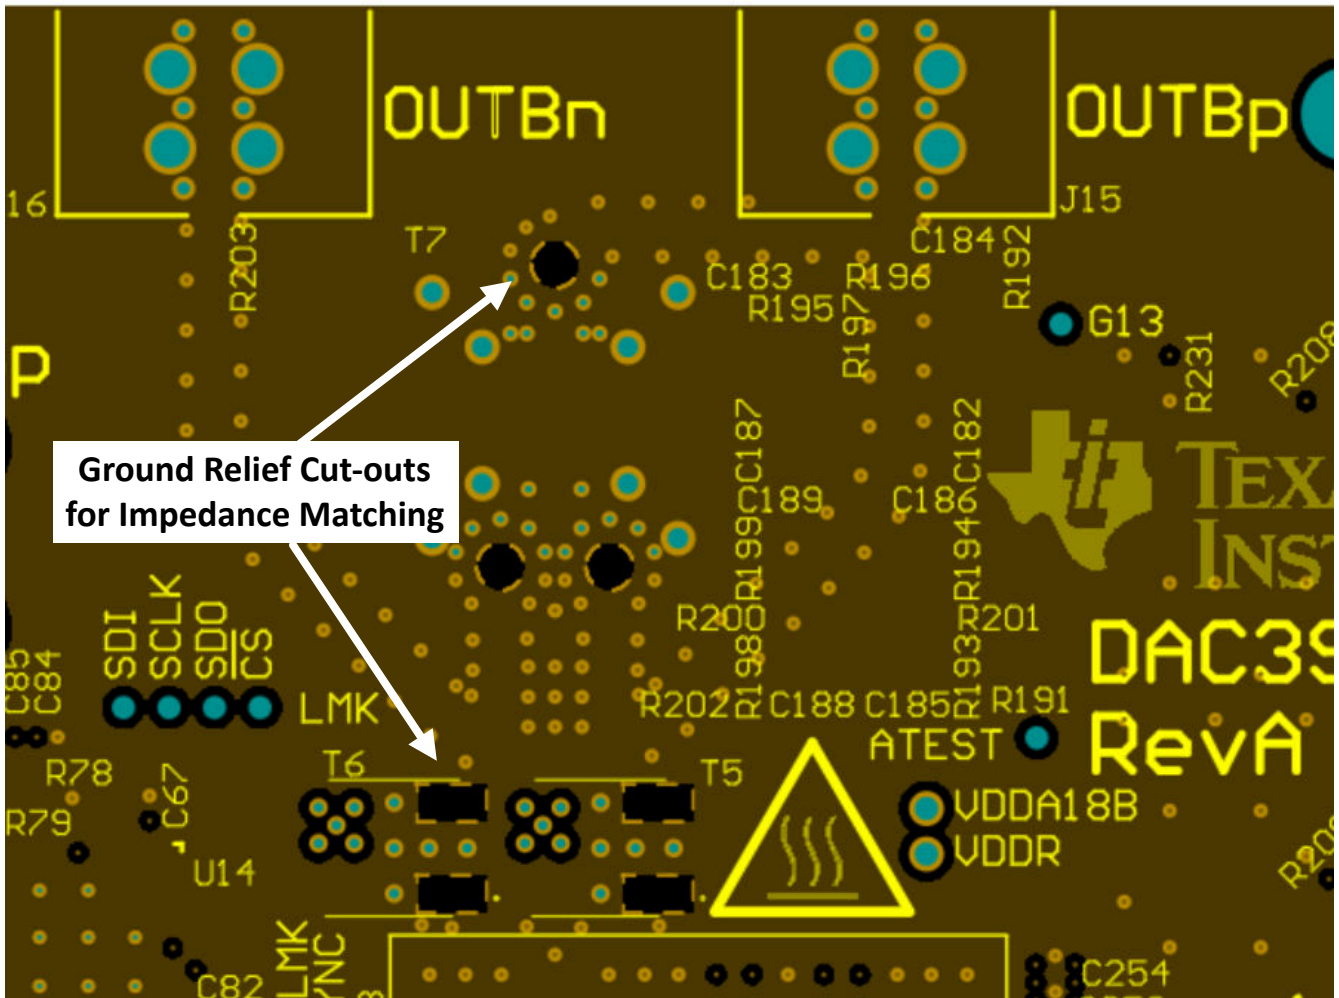
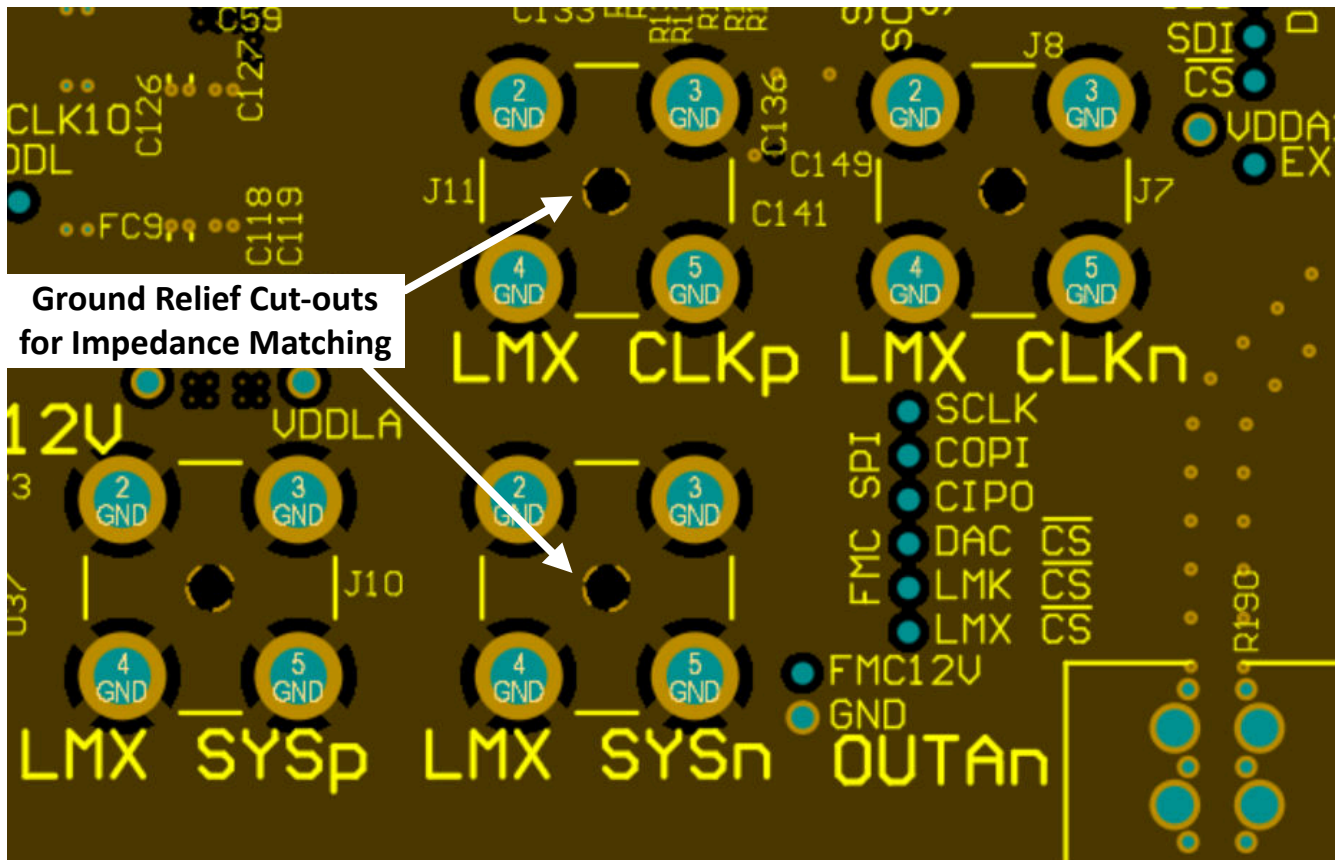

Figure 8-25. Ground Cut-outs below Balun and Bias-T Pins
Figure 8-26. Ground Cut-out Below SMA Connector Center Pin
5. Incorporate any ground plane cutouts necessary at component landing pads, ie – SMA connectors, baluns, and so on, to avoid impedance discontinuities at these locations. Cut-outs below these landing pads on one or multiple ground planes to achieve a pad size or stackup height that achieves the needed 50Ω, single-ended impedance. See Figure 8-25 and Figure 8-26 as an examples.